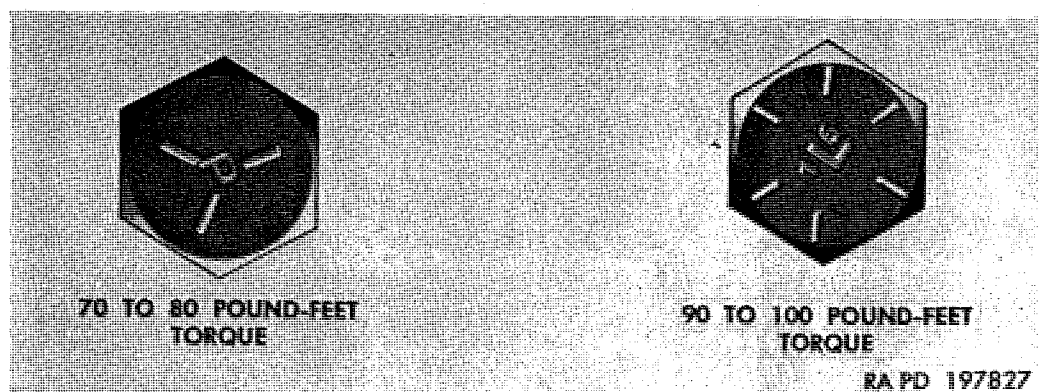

Figure 101. Cylinder head bolt markings.
- (1) Clean top of cylinder block and surface of cylinder head, and inspect portion of push rod cover gasket visible above cylinder block. If push rod cover gasket is damaged and requires replacement, report to higher authority.
- (2) Place new cylinder head gasket on engine cylinder block. Word TOP is imprinted on upper side of gasket. Lower the cylinder head assembly into place on gasket; then thread cylinder head bolts into block. Use of bolts with six radial marks (fig. 101) is recommended whenever available.